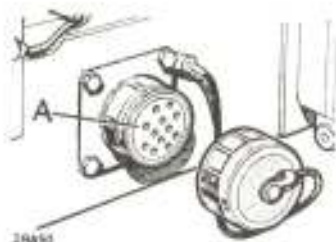
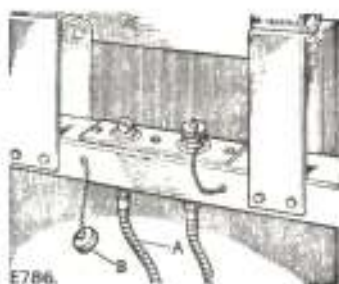
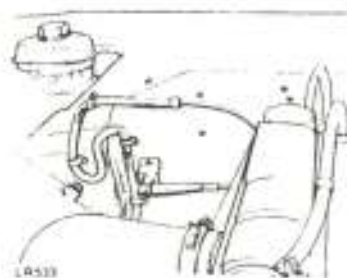

Fig. 117 NATO trailer plug socket, 24 volt models
Fig. 123 Aerial co-axials in rear body
Fig. 124 Aerial co-axial and dummy socket on wing valance
314. A NATO 12-pin trailer socket is situated on the left-hand side of the rear chassis cross member. The socket is protected by a rubber cover. (Fig. 117). See circuit diagram for wiring connections.
328. The connector from each of the aerial bases when fitted to the mountings mentioned above are led into the vehicle through a hole in a rubber disc riveted to the canvas hood adjacent to each aerial base. A protection flap (Fig. 117) is provided for the disc.
333. Two connector co-axials (Fig. 117) are fitted to the vehicle to connect the ATU to the appropriate radio set. The rear end of the connectors (Fig. 123) are stowed vertically at the centre of the driver's compartment seat rest adjacent to the location of the VHF sets. Captive screw caps (Fig. 123) are provided to protect the ends of the connectors when disconnected. The plugs on the front end of the connectors fit on dummy sockets (Fig. 124) fitted to the inside of the wing valance beneath the engine bonnet.
- (1) Unscrew the locking ring securing the connector plug to the dummy socket and withdraw the plug. See Fig. 124.